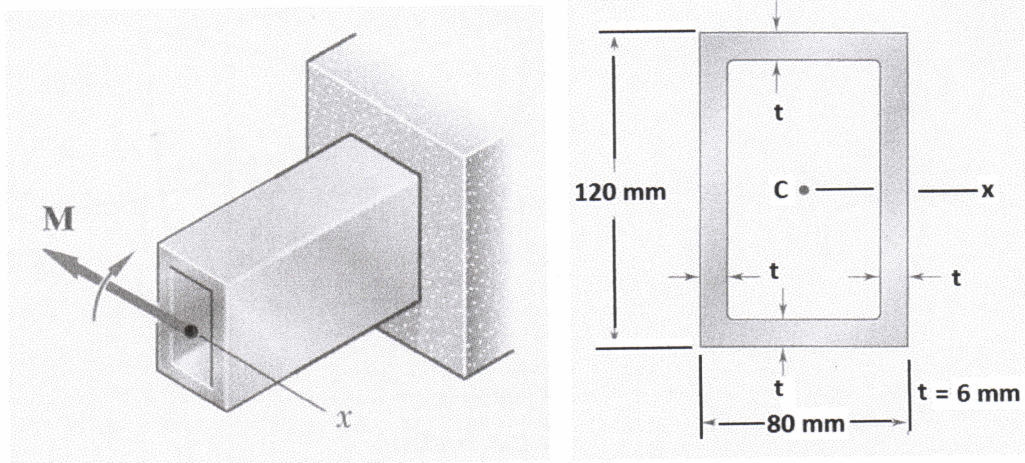

Figure Q1
- Q1.** The rectangular tube shown in **Figure Q1** is extruded from an aluminium alloy for which  $\sigma_y = 275$  MPa,  $\sigma_u = 414$  MPa, and  $E = 73$  GPa. Neglecting the effect of fillets, determine